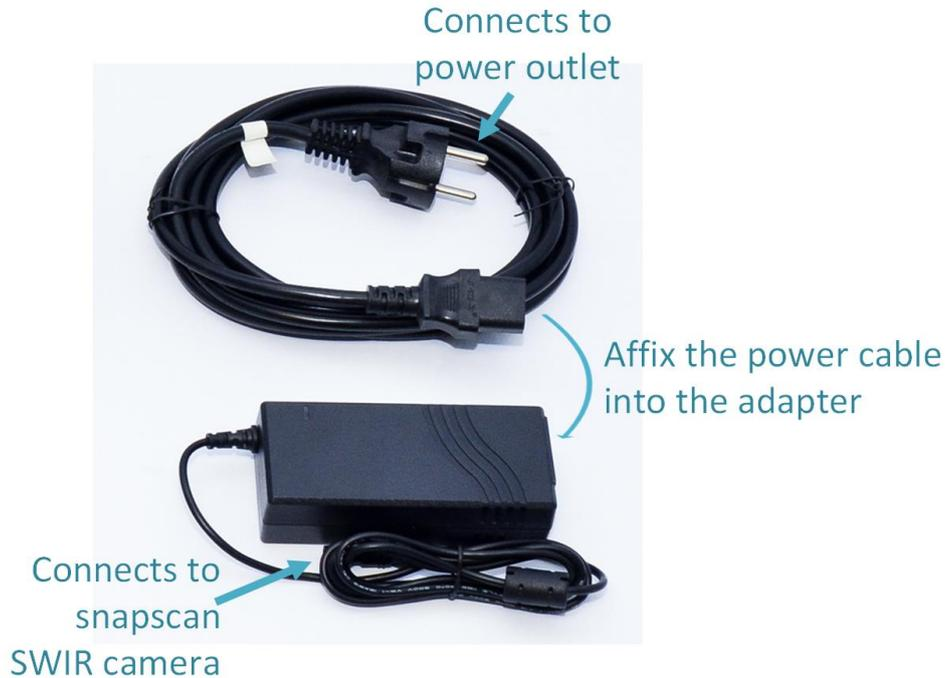

Figure 45 Assembling the power adapter for the snapscan controller
- a. Assemble the power adapter by affixing the power cable into the adapter, as shown in Figure 45.